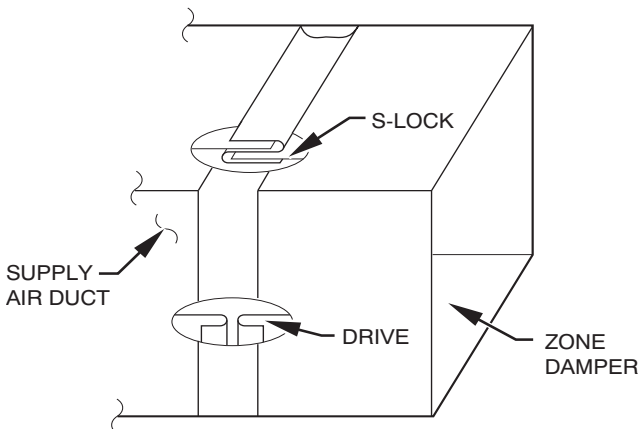

Fig. 3 - Rectangular Metal Ductwork
1. Make connections using S-lock and drives (See Fig. 3).